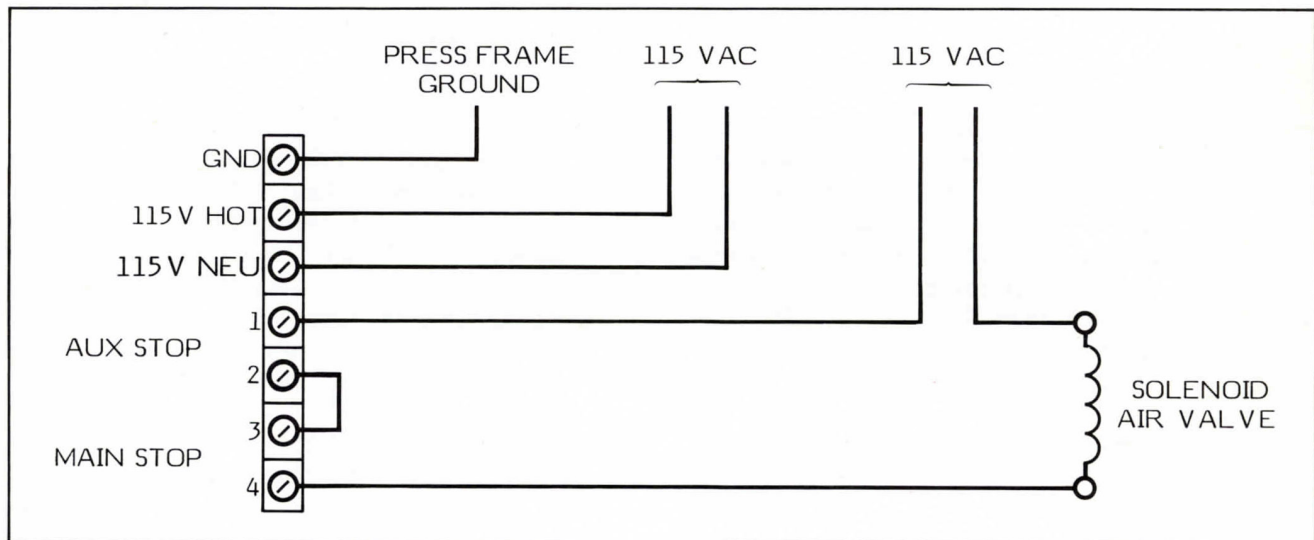

Figure 39. IC 3-1-TD Installation.
- As shown in Figure 39, this installation overrides all other electrical tripping or stopping means, such as foot switches, or palm buttons.
5. If desired, a Remote Reset capability may be added for the rundown interval circuit. (This circuit determines the time period, after the stop command, during which the cyclic event (or green signal) must be received to restart the press). To provide Remote Reset capability, add a normally open (NO) push-button switch from the front panel banana jack to ground. Warning! Do not connect the Timer Reset switch and the IC Controller Remote Reset Switch together.
6. Follow interconnection instructions as shown in Figure 39.